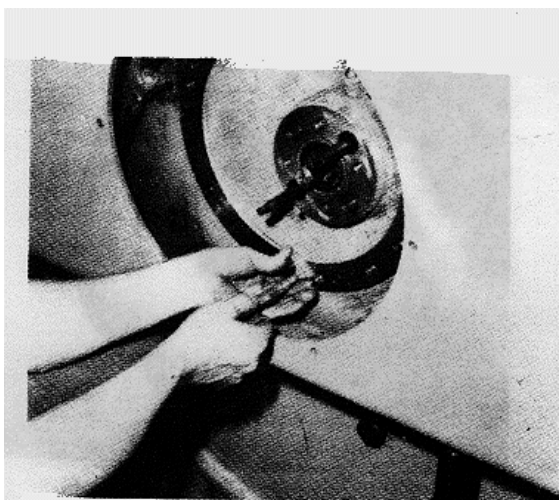

FIGURE 7-97.
i. Measure the distance between the frame and the planetary anchor flange. Take this measurement in three equally spaced locations. The best method of measurement is to use a depth micrometer and measure the depth from the outside of the flange through the puller bolt holes to the machined face of the frame. Total the three measurements taken and record them. Remove the anchor flange by using three puller capscrews (see figure 7-97). With a micrometer, measure the thickness of the flange next to the puller holes. Total the three measurements taken and subtract from the depth measurement. Divide your answer by three to obtain the shim thickness needed. For the C350B assemble a shim pack equal to the final answer plus .003 in. (.076 mm) or minus .002 in. (.051 mm).